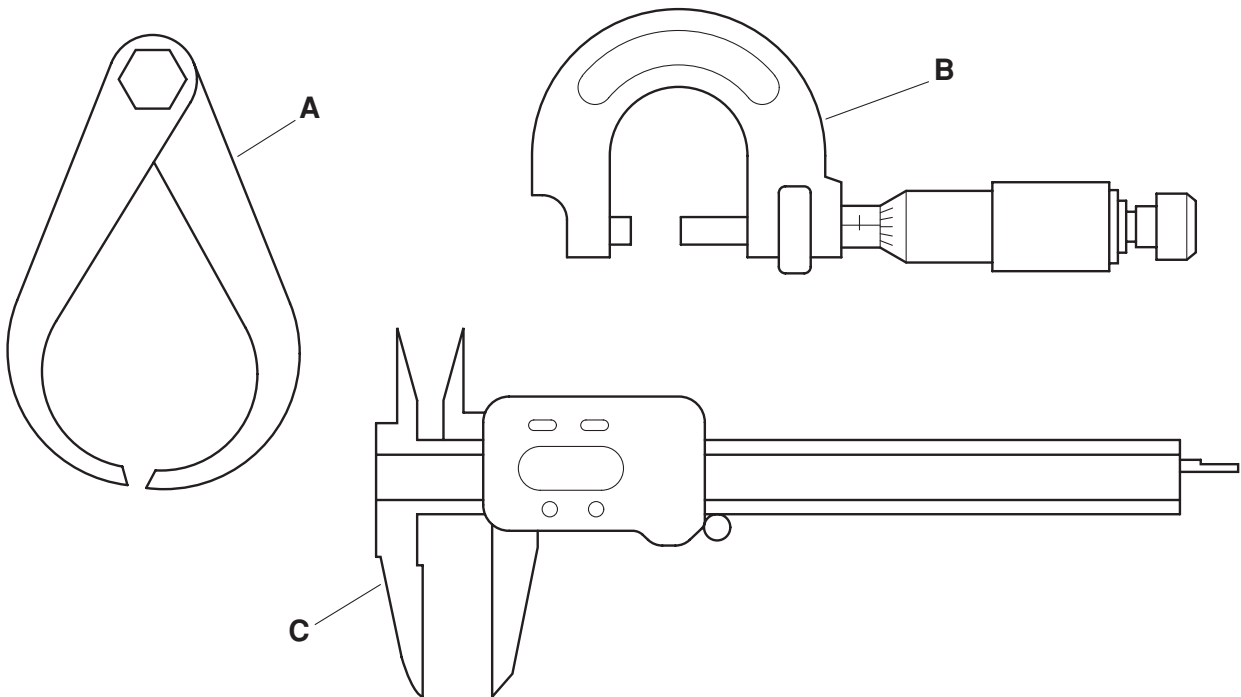

Fig. 4
11 Many measuring devices and testing methods are used to check work. Three are shown in Fig. 4.
- (a) Identify each of the measuring or testing devices shown in Fig. 4 and explain the purpose of each. [6]